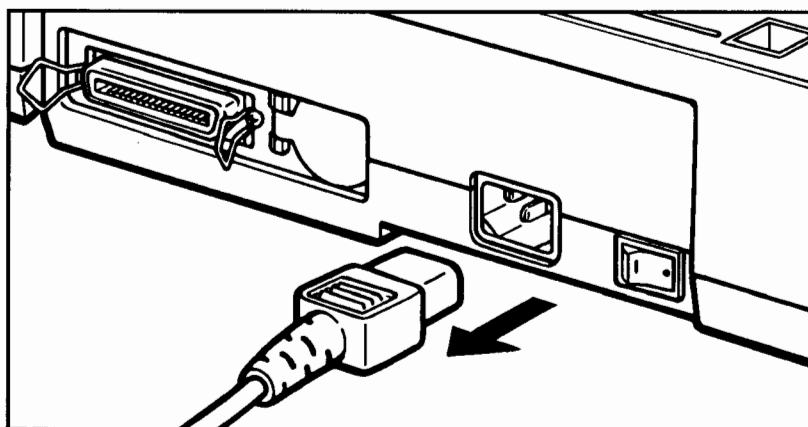

Figure 16. Disconnecting the Power Cord
7. Disconnect the power cord from the AC outlet and from ScanJet Plus. See figure 16.